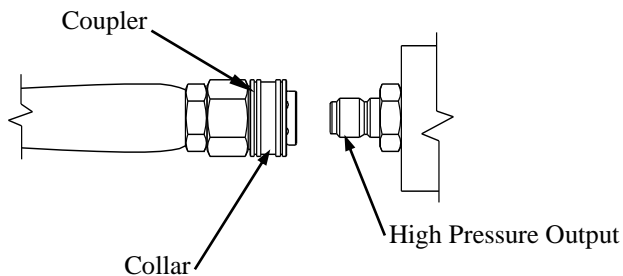

Figure 7a
2. The high pressure hoses are equipped with quick couplers. To connect the hose(s), simply pull the collar back and push the coupler onto the water outlet nipple. (Figure 7a). The collar should slide over the ball bearings.